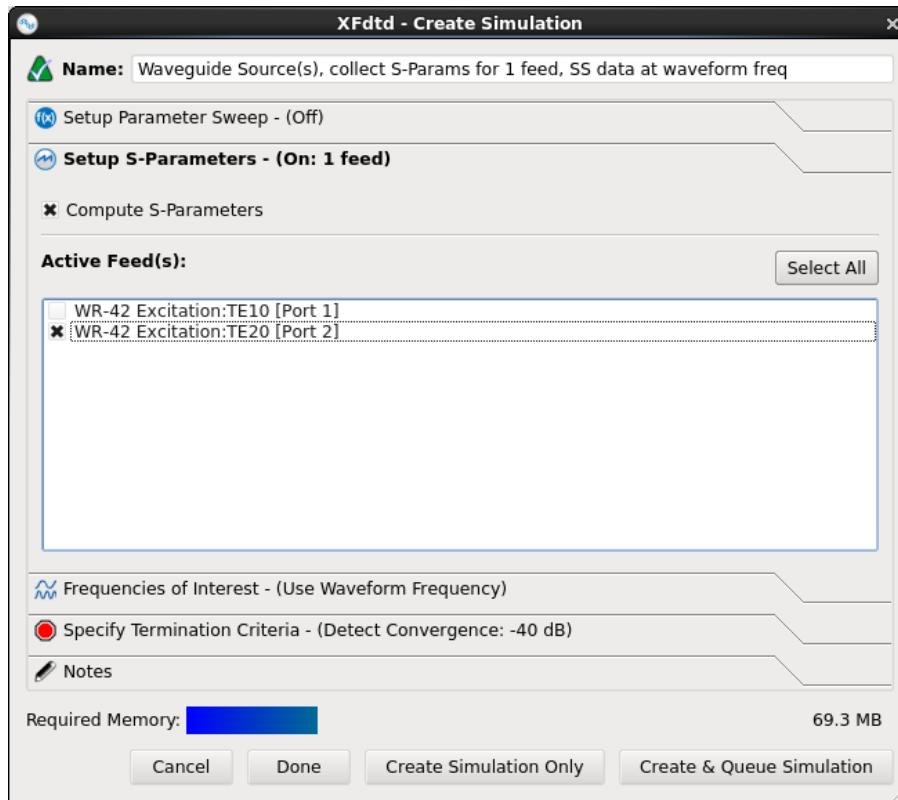

Figure 5.24: Setting up S-Parameters on the New Simulation Window
- In the SETUP S-PARAMETERS tab check the COMPUTE S-PARAMETERS box. Uncheck the box next to WR-42 EXCITATION:TE10 [PORT 1], and check the box next to WR-42 EXCITATION:TE20 [PORT 2], as shown in Figure 5.24. We do this to excite the TE20 mode.